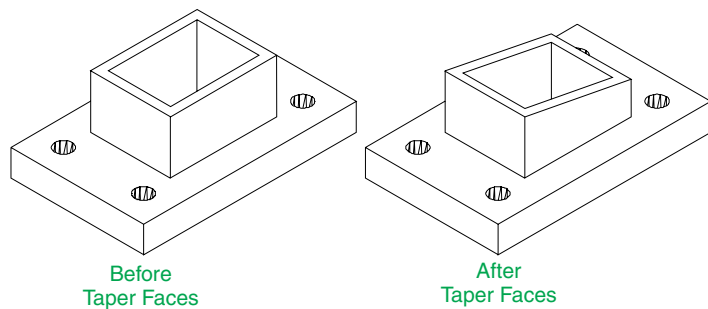

Fig. 19.10 Fifth example – **Taper faces** tool
Fifth example – Taper faces tool (Fig. 19.10)
- Construct the 3D model as in the left-hand drawing of Fig. 19.10. Place in the **SW Isometric** view.
And the selected face tapers as indicated in the right-hand drawing (Fig. 19.10).